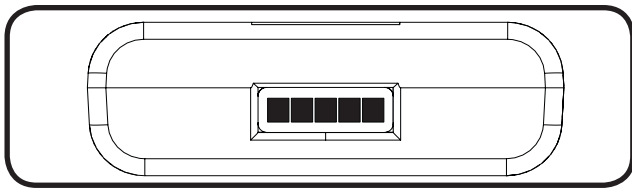

Figure 1
The battery has an LCD fuel gauge located on the end of the battery. This fuel gauge displays five (5) bars when fully charged. Each bar represents twenty percent of the battery's capacity (Figure 1).